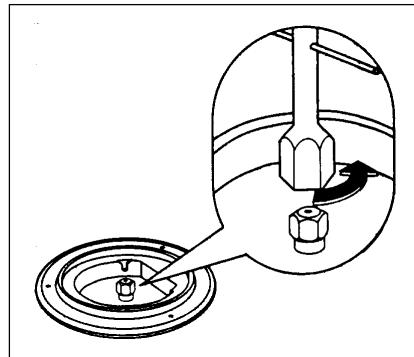

Fig. 1
- With a socket spanner 7 unscrew and remove the injectors (Fig. 1), and replace them with the ones required for the type of gas in use (see table: Gas Burners).